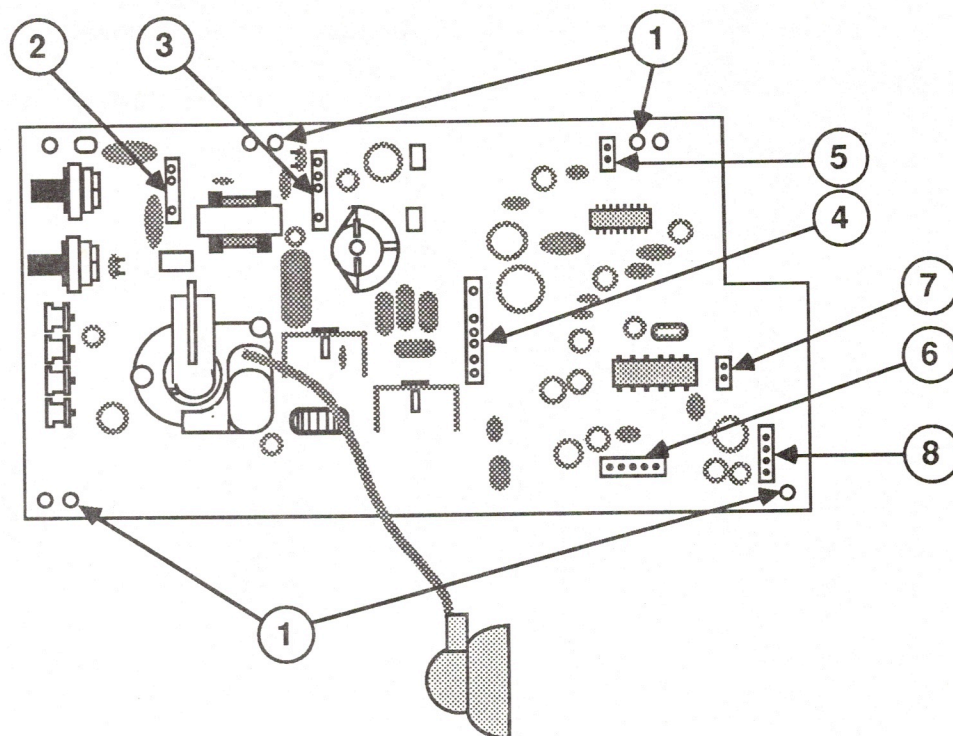

FIGURE 4
- D-7, the large three-pin connector (Figure 4, #2)
- D-8, the large four-pin connector (Figure 4, #3)
- D-6, the large six-pin connector (Figure 4, #4)
- D-9, the two-pin connector (Figure 4, #5)
- D-2, the five-pin connector (Figure 4, #6)
- D-5, the two-pin connector (Figure 4, #7)
- D-4, the four-pin connector (Figure 4, #8)